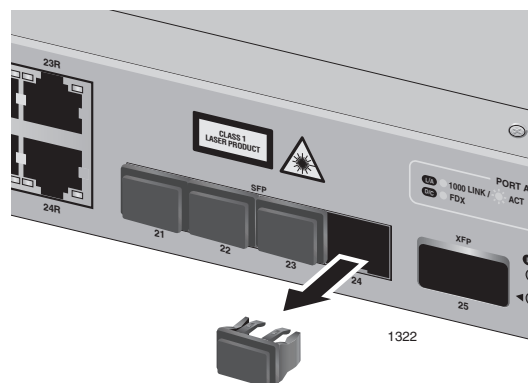

Figure 22. Removing a Dust Plug from an SFP Slot
1. Remove the dust plug from a transceiver slot on the switch, as shown in Figure 22.